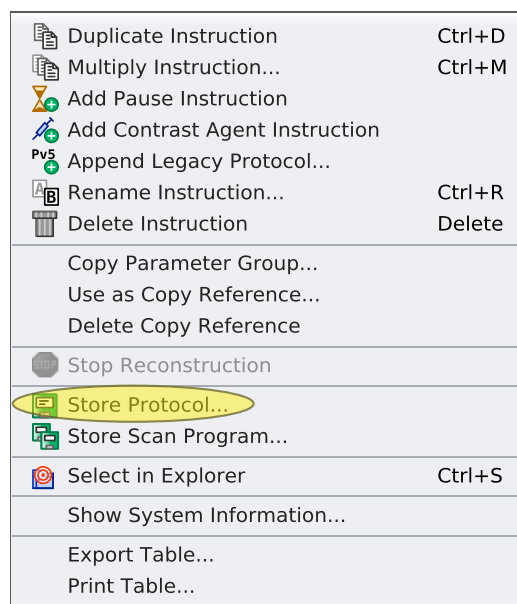

Figure 1.29: Context Menu Examination Card
2. Open the context menu (see [Figure 1.29 \[p 51\]](#)) and invoke **Store Protocol...**